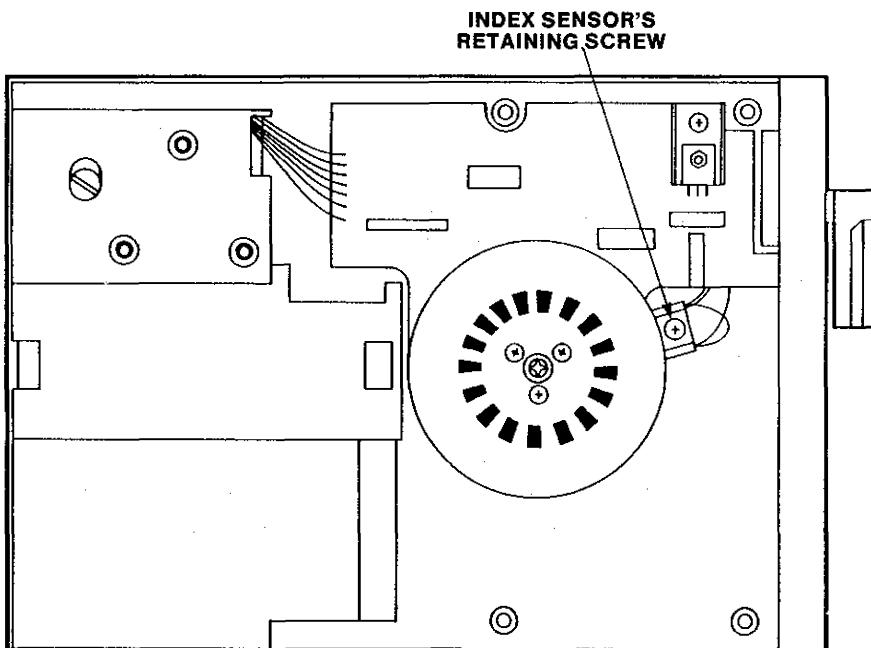

FIGURE 5-7
1. Loosen the index sensor's retaining screw located on the underside of the chassis (Figure 5-7).